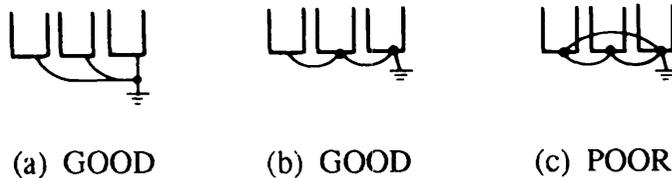

Fig. 1.4 Grounding of Three VS-606PC3 Units
- (1) Ground resistance should be $100\ \Omega$ or less.
- (2) Never ground VS-606PC3 in common with welding machines, motors, or other large-current electrical equipment, or a ground pole. Run the ground lead in a conduit separate from leads for large-current electrical equipment.
- (3) Use the ground leads which comply with AWG standards and make the length as short as possible.
- (4) Where several VS-606PC3 units are used side by side, all the units should be grounded as shown in (a) or (b) of Fig 1.4. Do not form a loop with the ground leads as shown in (c).